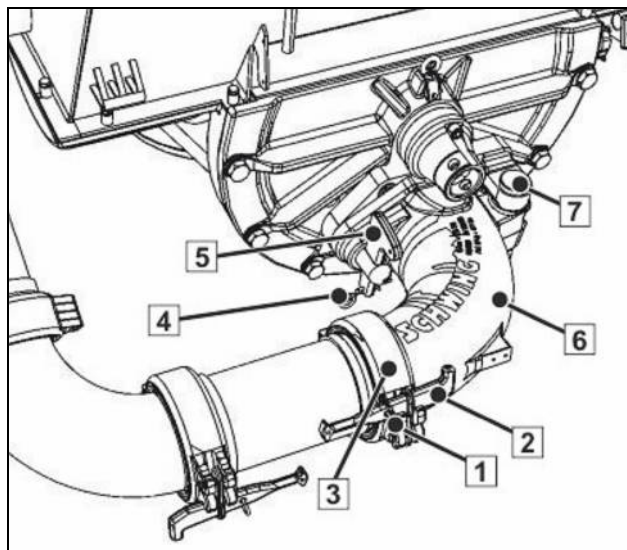
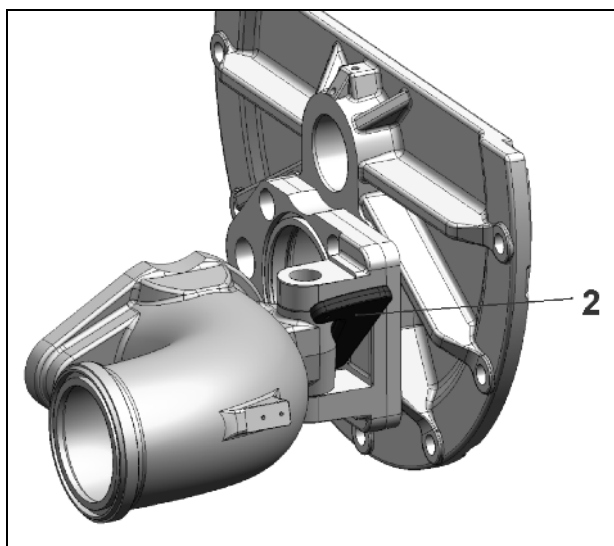

Fig.: 8
Fig. :9
- Pull clip pin 1 (Fig.: 8)
- Loosen the wedge (2)
- Disassemble the coupling (3)
- Pull the clip pin (4) out of the wedge (5)
- Remove the wedge (5) and keep it ready to use as a chock for the hinge (7).
- Open the foldable outlet (6).
- At an open angle of approx. 100°, the wedge (2) can be wedged into the notch of the hinge, see (Fig. :9)